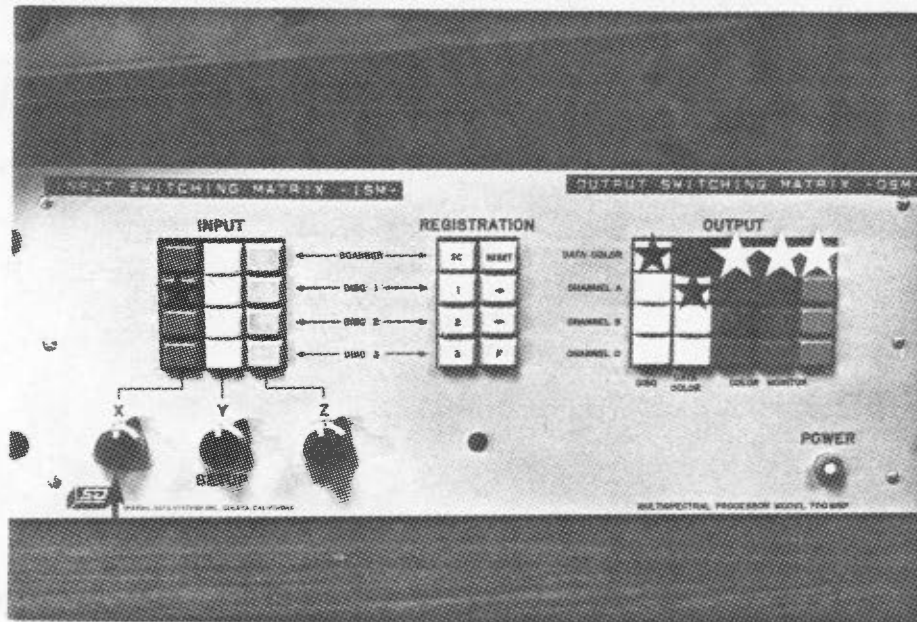
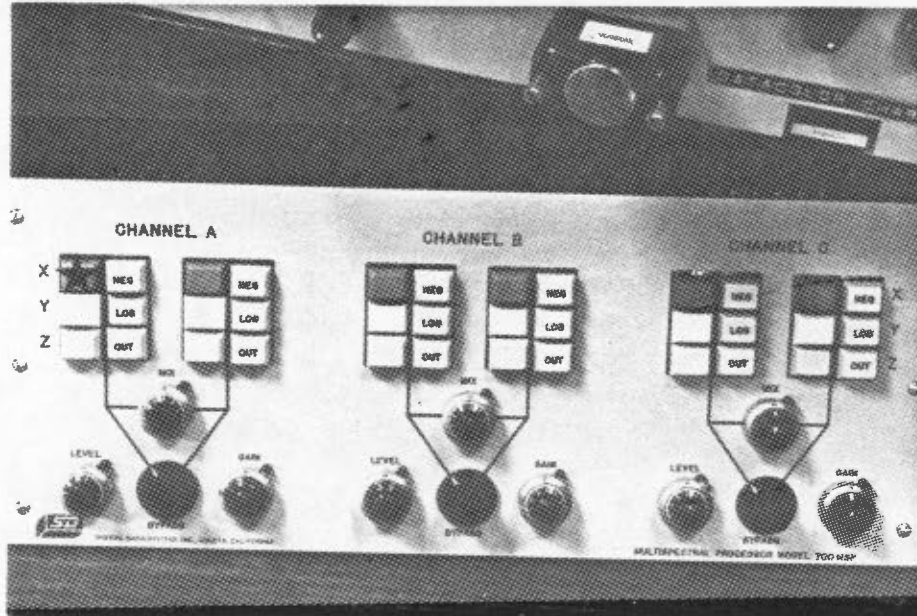

FIGURE 7.2. MSP-LEFT CHASSIS - Push Button set up to read & density slice an image from disc 1 (D1) through channel A.
FIGURE 7.3. MSP-RIGHT CHASSIS - Push Button set up to read & density slice an image from disc 1 (D1) through channel A.
2. On the MSP left hand chassis in the ISM, push the Disc 1 button on the X column (see figure 7.2). On the right MSP chassis push the X button on A and the image will appear on the EH monitor and the colour monitor (see Figure 7.3). On the right chassis of the MSP remove the log function by pushing the **LOG** button to allow it to come up. After setting the **SET-UP** switch on the D/C keyboard to **Color**, adjust the **X-SET-UP** dial on the ISM to bring the dark orange (level #16) to colour the maximum density of the image.